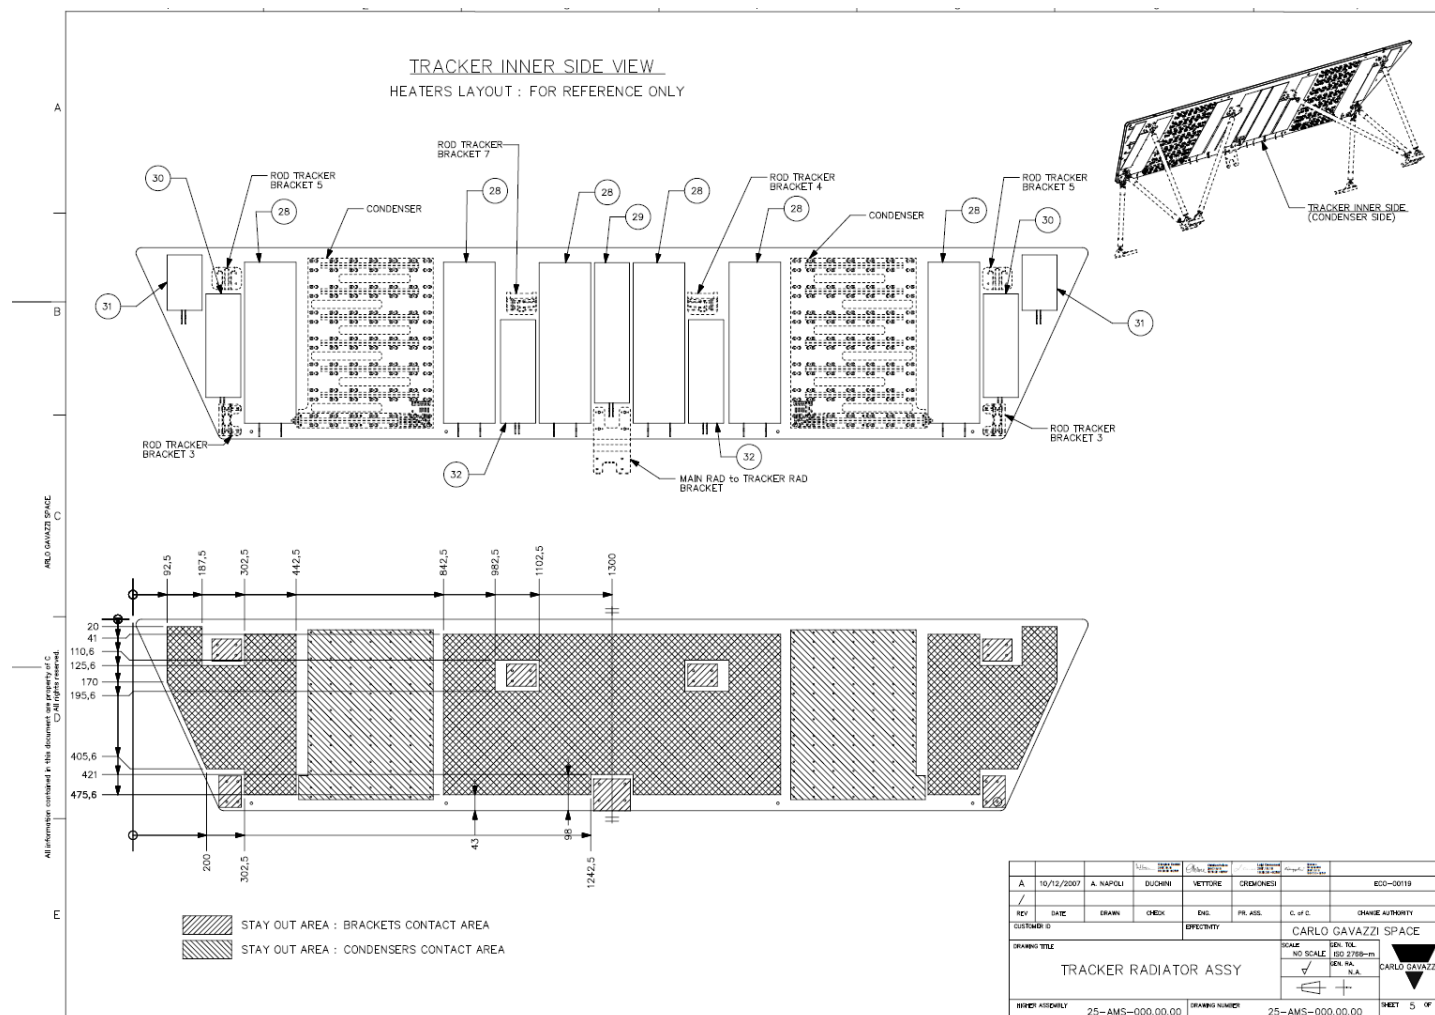
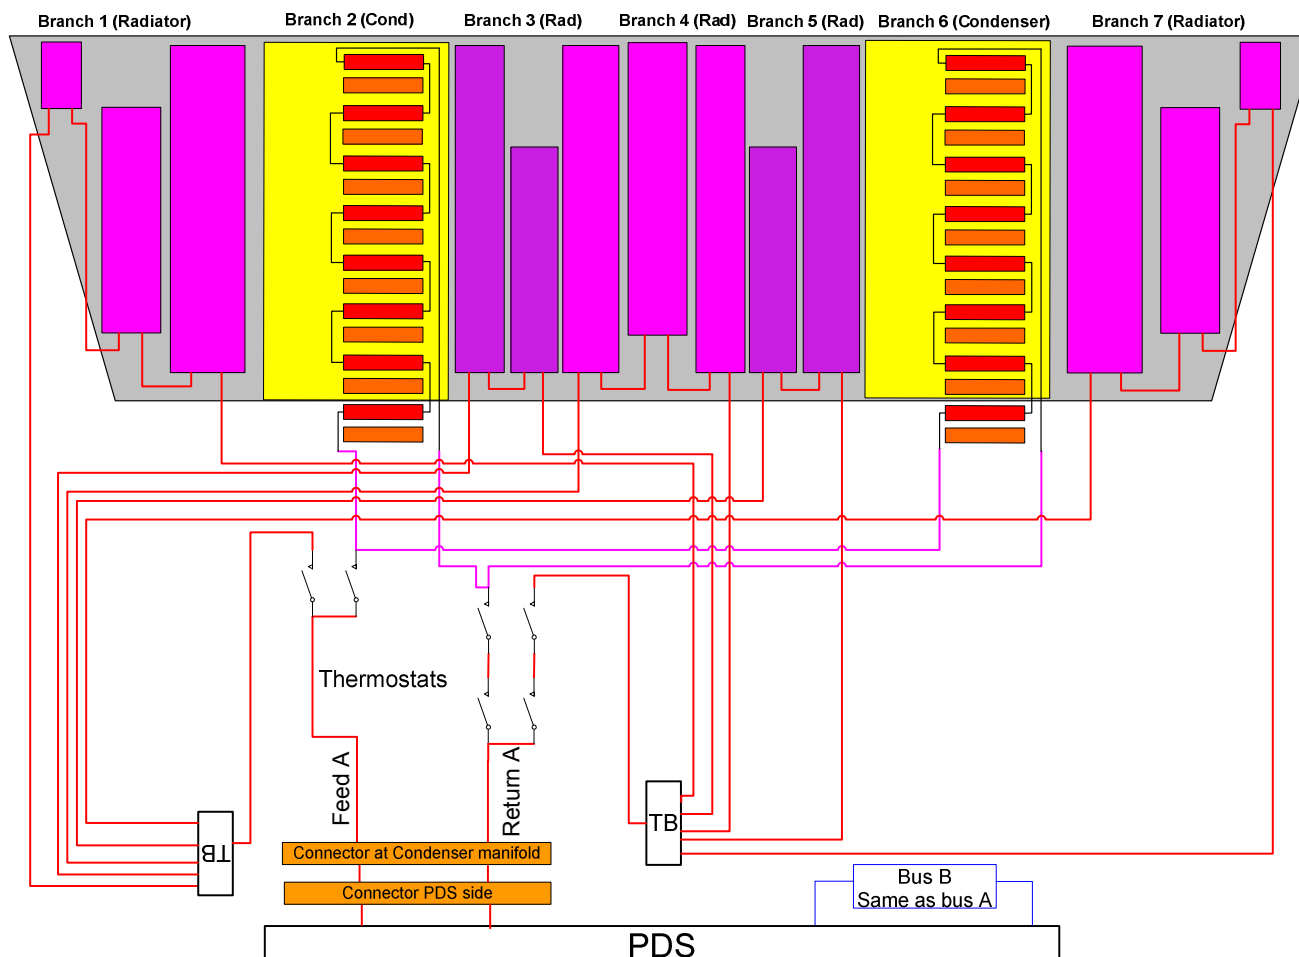

Figure 5-2: Tracker radiator and foil heaters layout with actual sizes
Figure 5-3: Tracker radiator lay-out with electronics wiring schematic (RAM is similar to WAKE)
In more detail the radiator is shown in Figure 5-2.
Each Tracker radiator panel is equipped by 120Vdc Kapton foil heaters glued on the radiator backside face sheet. The layout of the heaters on the radiator is seen in Figure 5-2 and Figure 5-3. (With actual sizes of the foil heaters). The heaters are organised in 7 parallel branches. Five (5) are divided over the radiator and two (2) branches are divided over the condensers (one for each condenser). Condensers (mounted on the backside of the radiator panel) are equipped with 120Vdc Kapton foil heaters as well. Details of the heater locations on the condensers is found in Figure 5-4 to Figure 5-6.